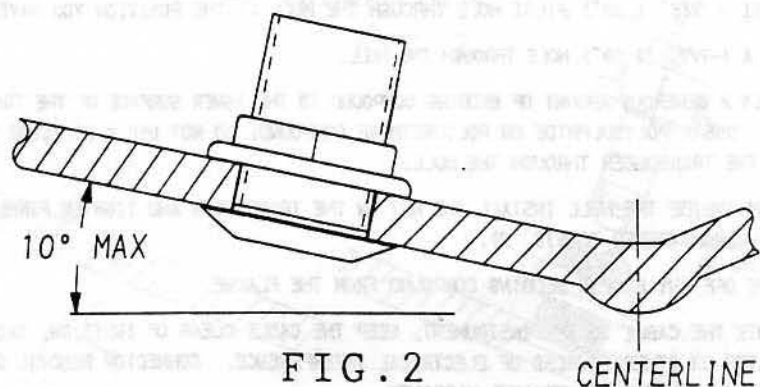

FIG. 2
4. FROM INSIDE THE HULL INSTALL THE NUT ON THE TRANSDUCER AND TIGHTEN FIRMLY WITH A WRENCH (REFER TO FIG. 2).